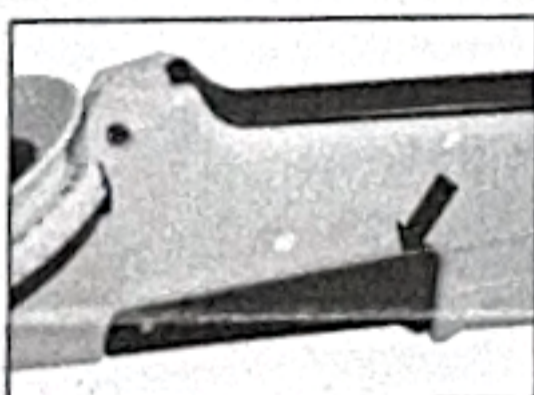

Figure 5
2. Firmly squeeze and then release the trigger on the handle (figure 5) to make impression of the selected character. In order to create a blank space or to advance tape, lightly squeeze the trigger until you hear an audible click, then release the trigger.
2. Firmly squeeze and then release the trigger on the handle (figure 5) to cut Labeling tape.